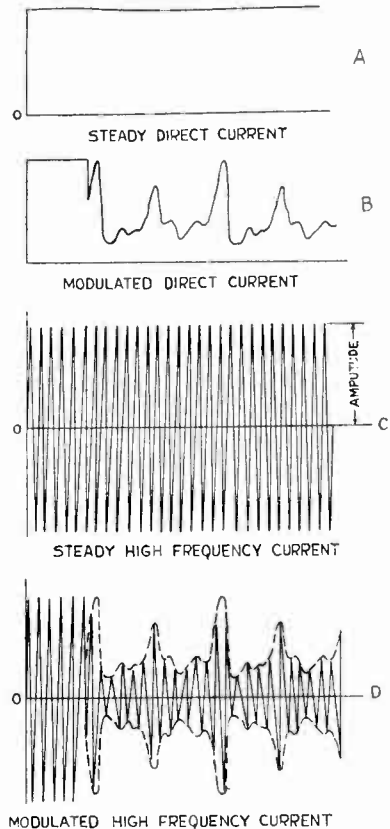

Fig. 16. Drawings illustrating the modulation of direct and high frequency alternating current by impressed speech frequencies.
Fig. 16 at (A) shows the steady direct current flowing through the microphone when the diaphragm is undisturbed, and the variation in current produced by transmitting the sound of "a" as in "father," is shown in (B) of this same figure. Fig. 16 (C) and (D) shows the variation of the current when this same "a" as in father is impressed upon a high frequency